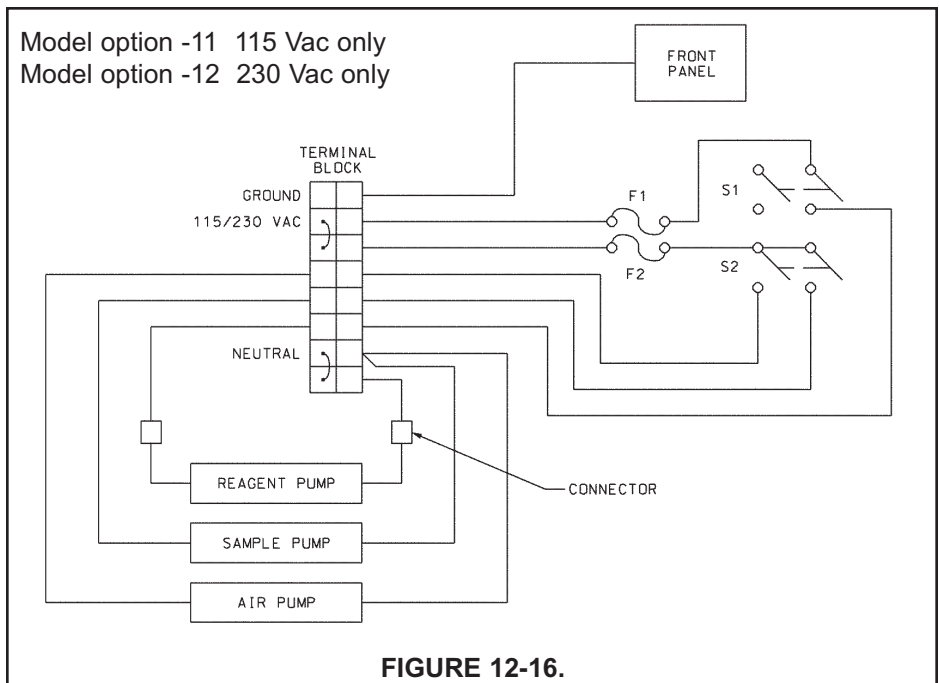

FIGURE 12-16.
7. Disconnect the air pump power wires from the terminal strip. See Figure 12-16. Discard the old air pump.